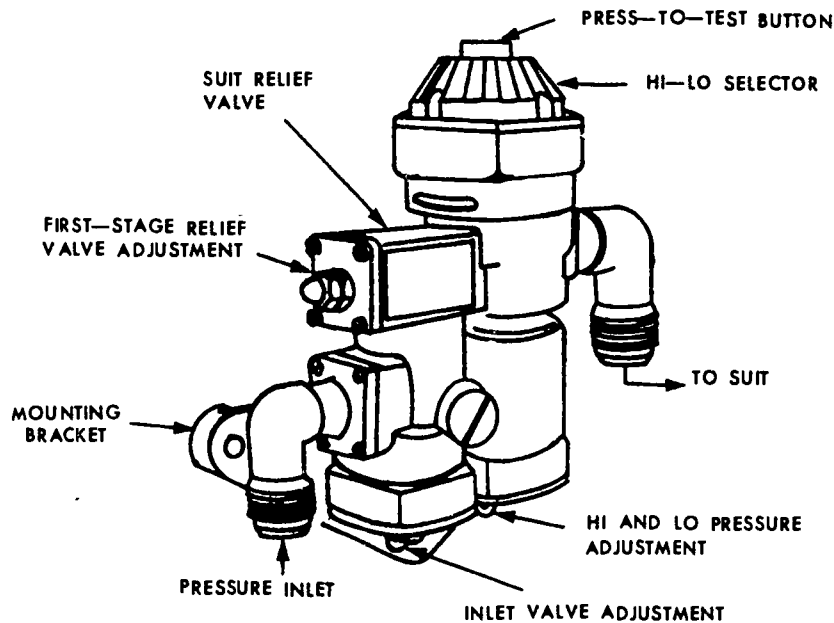

Figure 2. MD-1 Anti-G Suit Valve.
Aircraft environmental systems personnel have the responsibility for the maintenance of the anti-G suit system. The system consists of air lines from the air source to the anti-G suit valve. This valve is shown in figure 2. The air lines then go from the valve to the anti-G suit. The air lines are not normally a source of trouble. Your main job will be checking the anti-G suit valve for proper operation. There are four tests which you will perform: (1) first-stage relief valve adjustment; (2) first-stage chamber pressure adjustment; (3) second-stage relief valve adjustment; (4) trip acceleration test. In order to understand the "Hows and Whys" of the tests, you must know how the valve works.